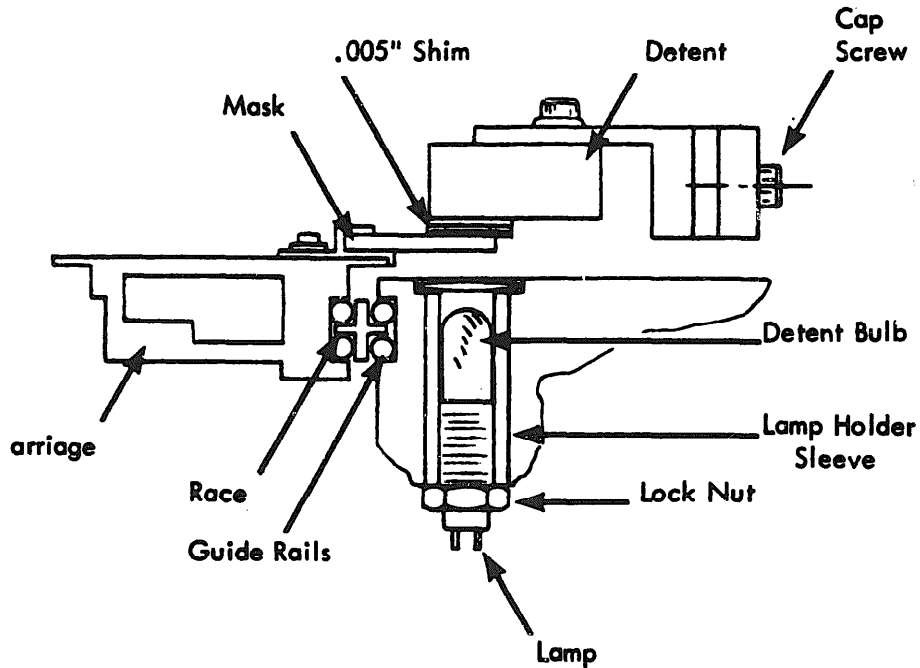

Figure 6-8. Mask/Detent Height Adjustment as Viewed From the Spindle
**Prior to tightening the #4-40 Phillips mounting screw, the mask should be positioned on the carriage such that it is as close to the positioner motor as possible and the shoulder on the underside of the mask assembly is flush with the edge of the carriage. (Reference Figure 6-8).**
Install the detent assembly on the post in the casting. Place a .005" mylar shim between the detent assembly and the mask (Figure 6-8). Slide the assembly down until there is .005" clearance between mask and the detent assembly and remove shim. Tighten the Allen screw on the side of the detent assembly. (Reference Paragraph 7.8 for detent alignment).